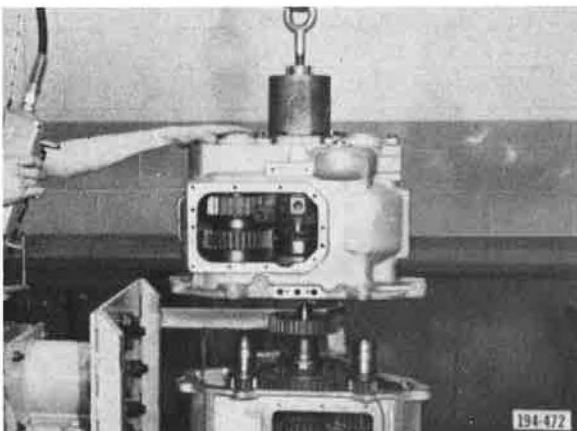

Figure 387. Installing Rear Case
2. Install rear case to main case, using a hoist and a lifting eye. See Figure 387.